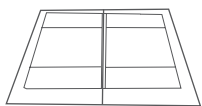
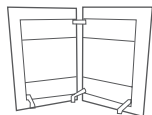

Figure 1A
Figure 1B
- 1 Carefully place the base flat (Figure 1A) or in a side L position (Figure 1B).